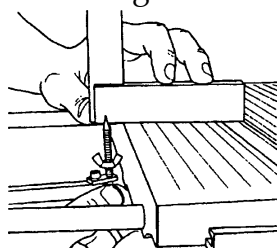

Fig. 9
11. Place the precision square on the table, as shown in Fig. 9. Loosen the wing nut and adjust the center pin so it is 1/8" above the table surface. Retighten the wing nut.